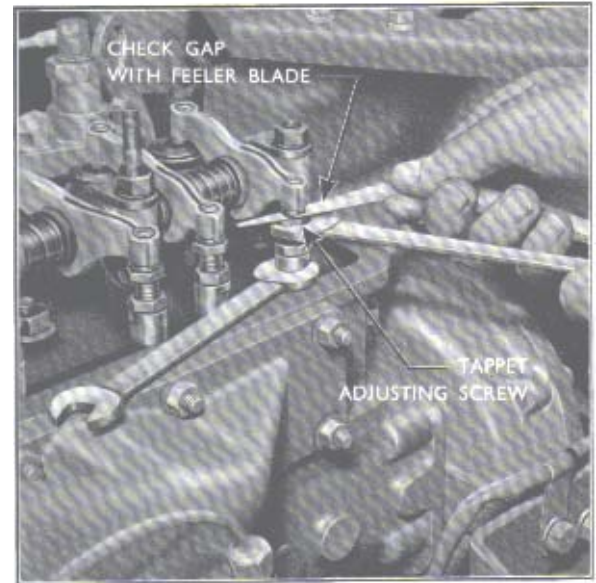

Fig. 3
6. Check the valve clearance on Nos. 1, 2, 3 and 5 valves (numbered from front to rear) using a 0.010 in. (0.25 mm.) feeler gauge, inserted between the end of the rocker lever and the top of the tappet adjusting screw. If necessary adjust the clearances as shown on Fig. 3. After adjustment fully tighten the tappet adjusting screw locknut.